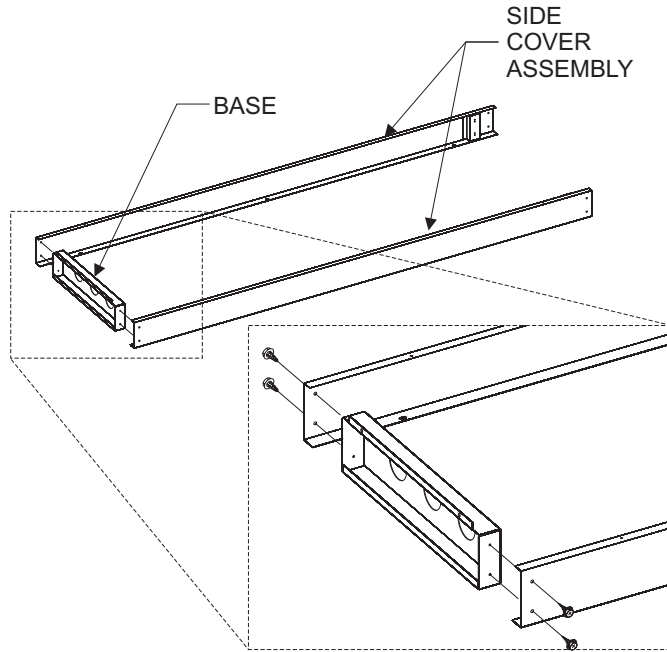

Figure 1
2. Place the base on the floor, so the mounting flange is toward the ceiling (see **Figure 1**.)
3. Attach the side cover assembly, left and right to the base with four (4) 8 x 3/8" Phillips screws. Be sure the header brackets on the side cover assembly, left and right are facing toward each other and 64" (1625.6mm) away from the base.